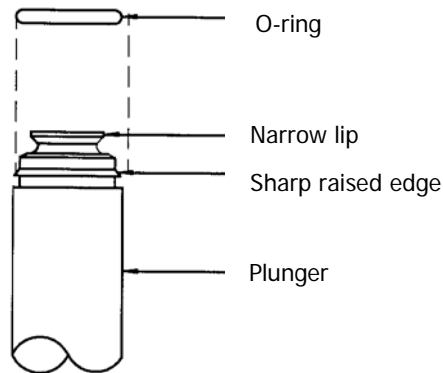

Figure 28 Plunger and O-ring configuration
5. Remove the seal from the plunger tip using a pair of pliers and gripping the seal approximately one third of the way down (Figure 28).